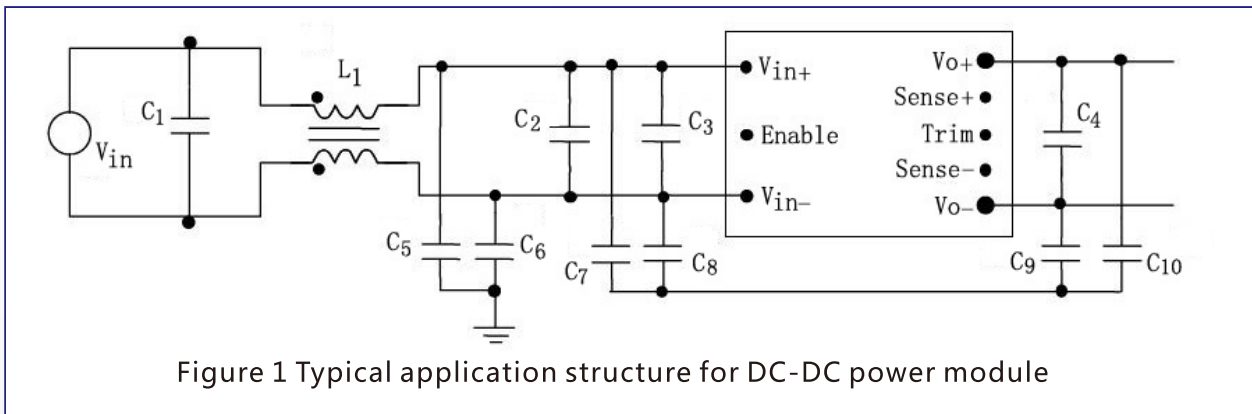
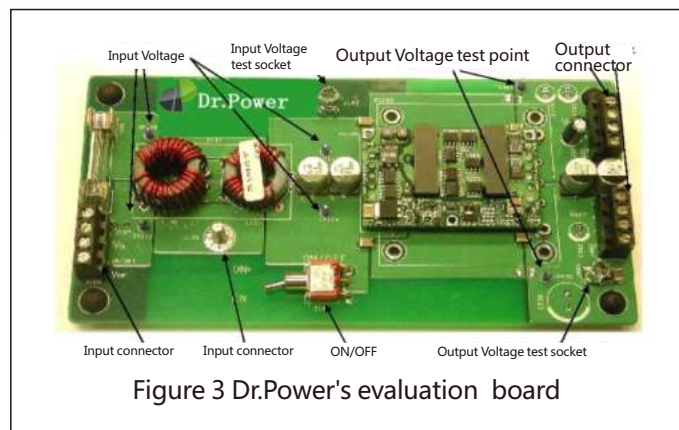

Figure 1 Typical application structure for DC-DC power module
Figure 3 Dr.Power's evaluation board
Figure 1 shown a typical application structure for DC-DC power module. For a DC-DC power module to function properly in a system, the system design should provide a sufficiently low impedance power source ( usually the output impedance of power source ) to feed the power module, and the output impedance of the power module should be sufficiently low as well for good transient response. Besides the internal design of DC-DC converters and power source, these requirements are usually assured by placing extra capacitors (C1-C4 in Figure1 and figure 2) across the input terminals and the output terminals of the power module.
For Dr.Power converters, the single-stage filter in Figure 1 is generally good for power modules below 150W. For power level above 150W, the two-stage filter structure shown in Figure 2 is recommended.
A copper plan should be placed under the power module and coupled to the input and output terminals of the power module through ceramic capacitors of proper voltage rating. These ceramic capacitors also include the components of filter, such as C7-C10 in Figures 1 and figure 2. This helps to contain the radiated noise from the fast  $dv/dt$  and  $di/dt$  inside the power module. This copper plan should be buried in an internal layer of the system board to prevent possible violation of isolation spacing distances between input and output.
Use short paths and minimize loops for capacitor branches in the filter to avoid the trace impedance defeating the purpose of low impedance of the high frequency capacitors. Therefore C3 and C4 in Figure 1 should be placed as close to the power module as possible.
Evaluating DC-DC power modules for a specific application is a quite complex and errorprone process, and requires a thorough understanding of the power module and the application environment. To assist customer perform the test, Dr.Power supplies module evaluation board as shown in Figure 3. This board contains practical application circuit similar to that shown in Figure 1. In addition to the connection terminals and test points, there are also probe socket of oscilloscope. Customers can order the evaluation board from Dr.Power. More important tests should be performed on this board or similar devices to ensure the correct results. Below discussion are related to the most commonly and important tests.
4. Such a shunt has a small and well defined resistance to convert a current into a voltage signal normally in the range of mV. However, the measurement of such low amplitude signal is susceptible to switching noises, especially the common-mode noise. Filter capacitors may be used to achieve valid readings (refer figure 1 and figure 2). If good grounding and filtering is not possible, it's recommended to connect an input terminal (usually  $V_{in-}$ ) to an output terminal (usually  $V_{o-}$ ) together through a short wire or a capacitor to minimize common-mode noise.